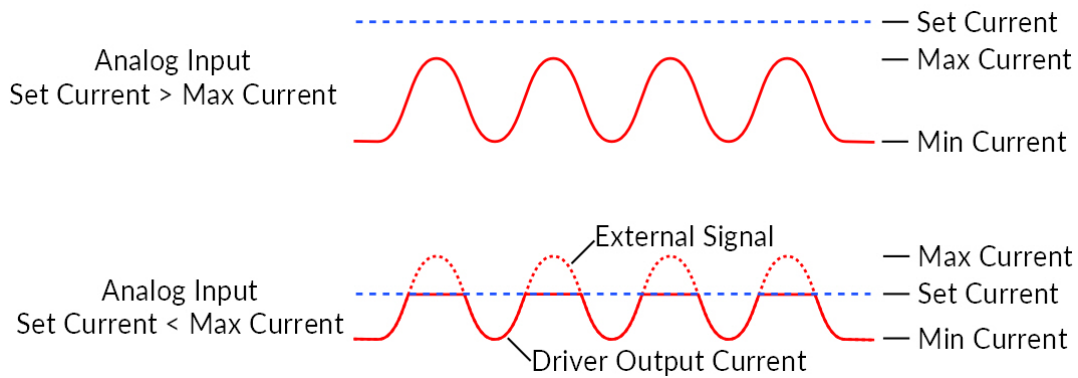

Figure 3.5: Driver and Light Source in External Analog Mode
c) The **External Analog** mode (Fig. 3.5) is similar to the External TTL, except that the current will be set by the voltage on the BNC input (Fig. 3.5, top). On the input BNC, a maximum voltage signal corresponds to a maximum driver current. Should the current set on the light source be less than the maximum current, any voltage corresponding to a higher current will clip the output waveform (Fig. 3.5, bottom). To avoid any clipping of the output waveform, the maximum current setting must be equal to or greater than the corresponding maximum analog input voltage. See the corresponding light source manual to find the voltage/current relationship. This mode has no additional sequence options.